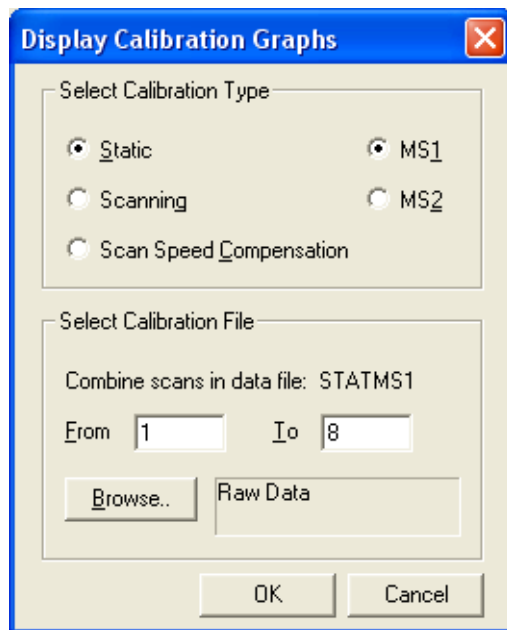

Figure 6-10 Display Calibration Graphs Dialog Box
1. View the calibration (whether successful or failed) in more detail by selecting Calibrate > From File in the Calibration Options window (see Figure 6-3) to open the Display Calibration Graphs dialog box (Figure 6-10). With the required calibration selected, the correct calibration file is automatically opened.